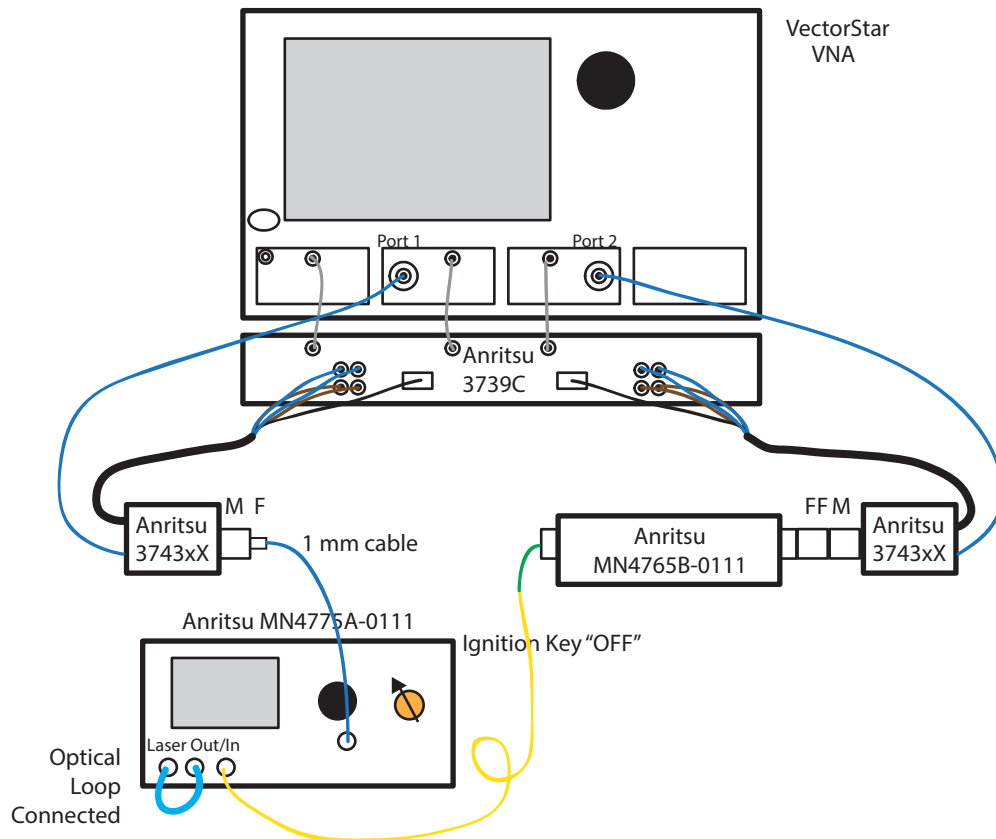

Figure 3-17. Optical Connection to MN4765B-0111
3. Connect **Yellow-colored** end of Optical Patch cable to MN4775A-0111 E/O Converter as shown in Figure 3-17.
4. Connect **Green-colored** end of Optical cable to MN4765B-0111 as shown in Figure 3-17.
5. Connect the VNA Port 1 to Anritsu MN4775A-0111 E/O Converter RF Input as shown in Figure 3-17.
6. Connect Anritsu MN4765B-0111 O/E Module Output to VNA Port 2 as shown in Figure 3-17.
8. Verify that **Optical Loop** is in place on MN4775A-0111 E/O Converter as shown in Figure 3-17.